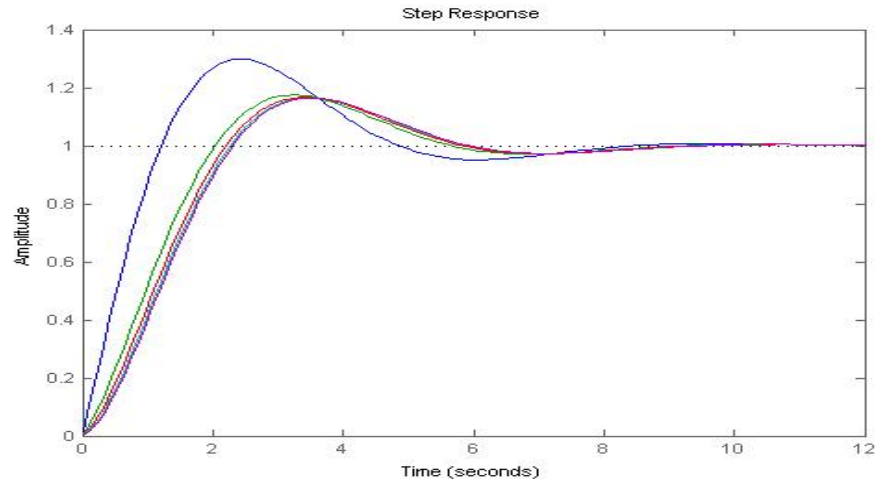

Figure 4.3: Step response and impulse response of the system with added zero ( $1 \leq \alpha \leq 9$ )
2. Figure 4.3 shows the effect of adding a zero ( $\alpha$ ) to the systems transfer function. In this case,  $\alpha$  varies from 1 to 9. As you can see, for positive values of  $\alpha$ , increasing the magnitude increases rise time and peak time, while settling time and overshoot decrease. Similarly for negative  $\alpha$  shown in 4.4, increasing the magnitude reduces overshoot, rise time, settling time, and peak time. Furthermore, adding a negative zero creates what is called undershoot, and the closer  $\alpha$  is to the imaginary axis, the larger the undershoot becomes.